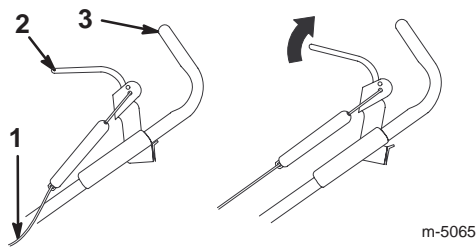

Figure 8
2. Move the left side of the control bar back toward the handle until you remove the slack in the cable (Fig. 8).